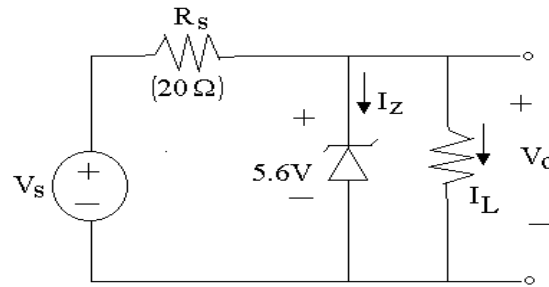

Fig.2
Q.51 In the circuit shown in Fig.2, if $v_i = 1 \text{V}$, calculate I_1, v_o, I_L and I_o . (4)